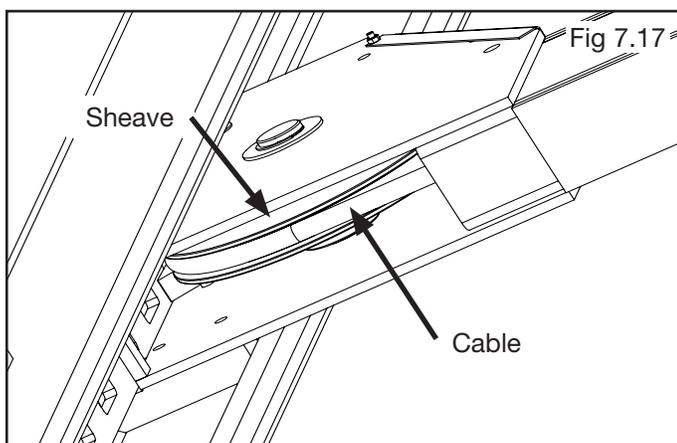

Fig 7.17
9. After routing the cables, make sure all cables are properly positioned and REMAIN WITHIN THE GROOVES of ALL Sheaves. (See Fig. 7.17 - 7.18)